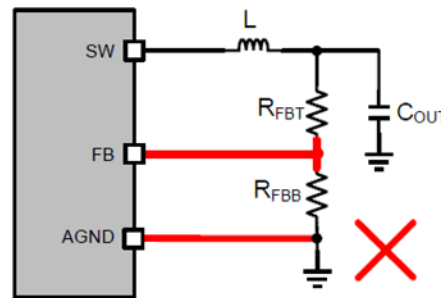

Figure 15. Avoid Long Traces to the FB Node
Protecting sensitive nodes is also very important for SMPS layout. One such node is the feedback (FB) pin. The FB node is a high impedance node. Avoid placing the resistor divider far away from the FB node and connecting FB node with long traces, as shown in Figure 15. To minimize the parasitic capacitance and noise pickup by the trace to FB node, the FB trace should be short and thin. As shown in Figure 16, it is recommended to place the resistor divider as close as possible to the FB pin and route a thin trace from output voltage sense away from noisy path, preferably from the other side of a shielding plane.